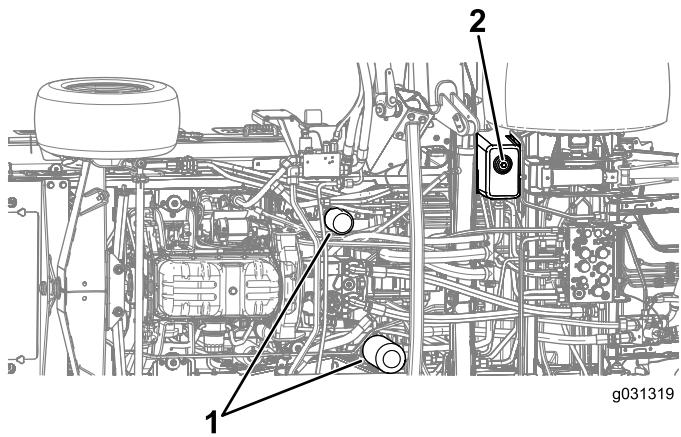

Figure 122
4. Remove the drain plug from the bottom of the tank and let the hydraulic fluid flow into the pan (Figure 122).
7. Place a drain pan under the filter and remove the filter (Figure 122).